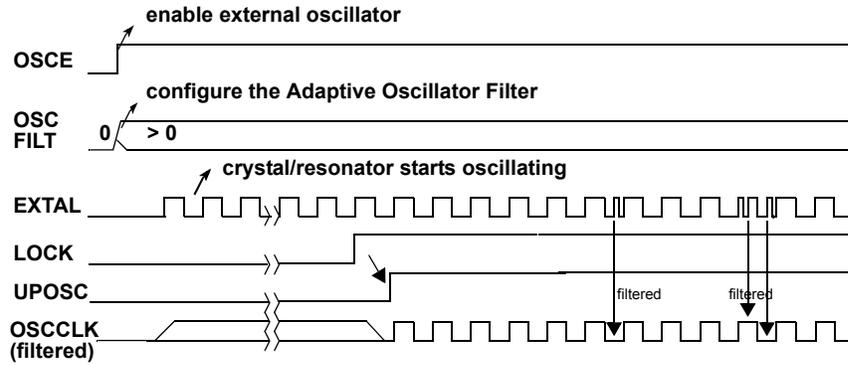

Figure 91. Noise Filtered by the Adaptive Oscillator Filter
1. Filter noise (spikes) from the incoming external oscillator clock. The filter feature is illustrated in Figure 91.